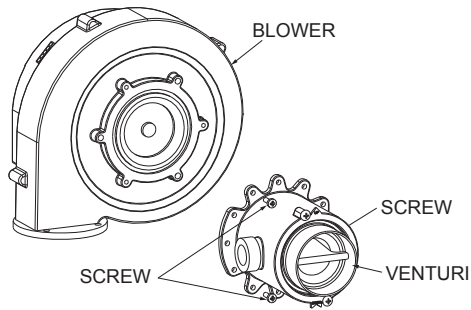

Figure 51. Propane Venturi
4. Replace the Natural Gas Venturi with the Propane Venturi. See Figure 51.